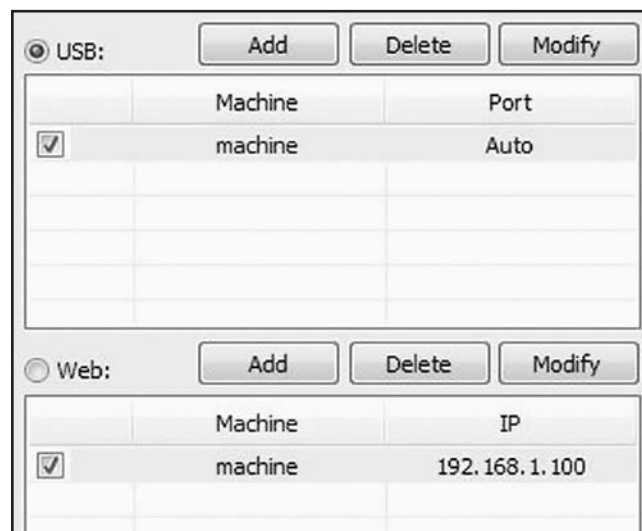

Figure 36. Device port dialog box.
3. In RDWorks output panel, select "USB:Auto" to open "Device Ports" dialog box (see **Figure 36**).
3. In RDWorks output panel, select "USB:Auto" to open "Device Ports" dialog box (see **Figure 36 on Page 34**).